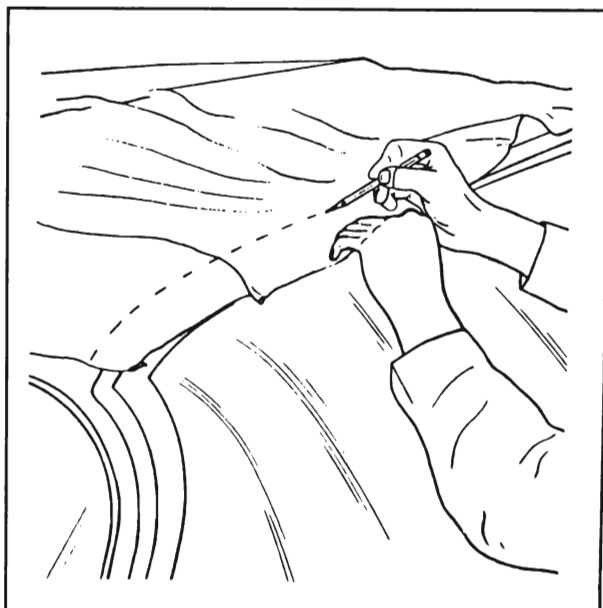

Figure 7-48—Marking Top Material
46. At front roof rail, pull top trim material forward to desired tension. While maintaining tension on top trim, place a pencil mark on outer surface of trim material along forward edge of front roof rail (see Figure 7-48).